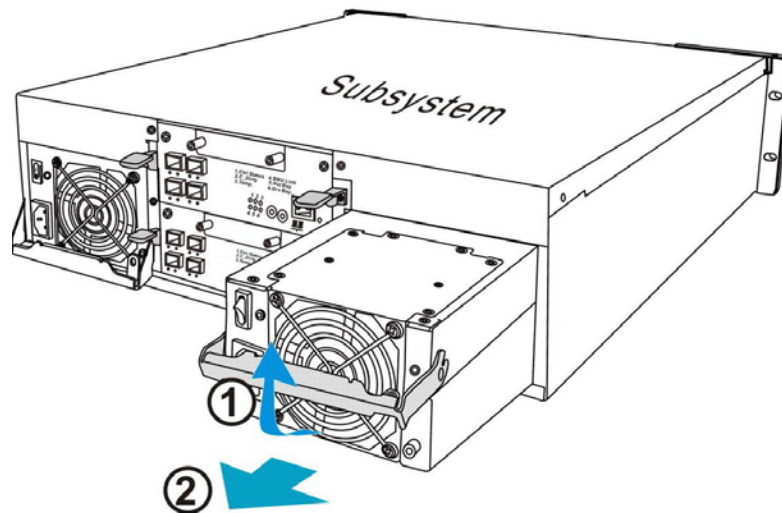

**Figure 5-12: Removing the PSU Retention Screw**
**Step 3.** *Remove the PSU retention screw* that secures the extraction handle to the chassis. (See *Figure 5-12*)